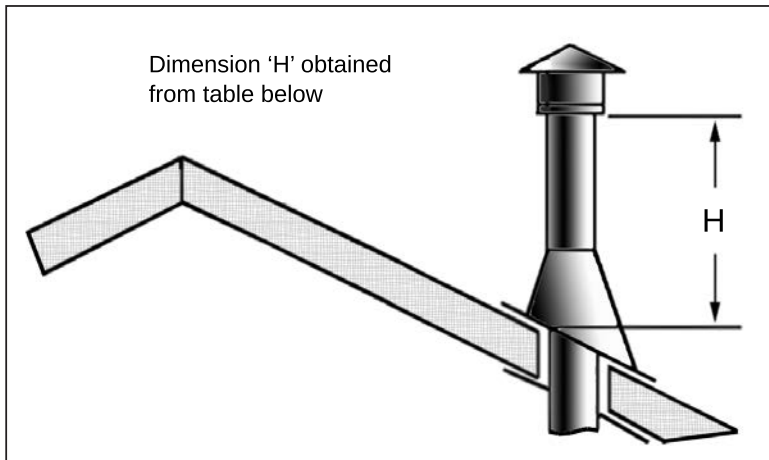

Figure 68: Height of Vertical Termination; Reference Table 8
- Step 4.** Measure roof pitch. Select the proper flashing and storm collar and determine the height above the roof (see Figure 68). A non-corrosive pipe material must be used for all exterior pipe lengths. Seal nail heads with silicone.
Table 9: Minimum 'H' for Figure 68.